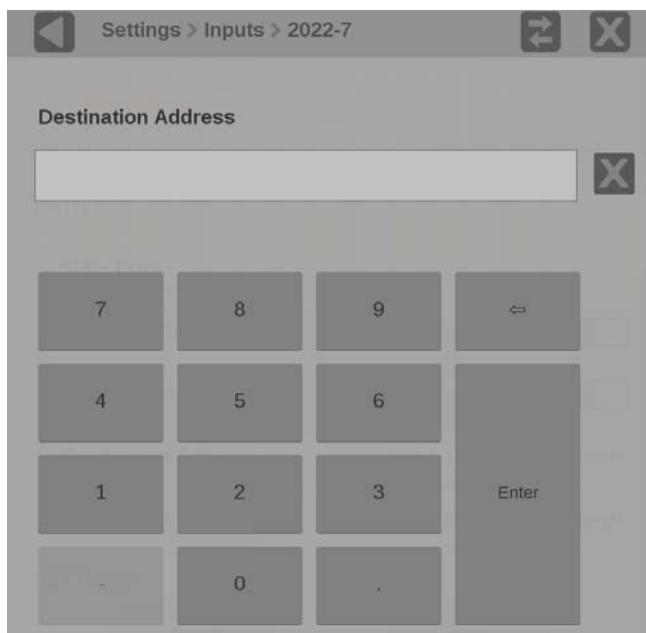

Figure 43: Editing parameter fields
5. To edit one of the parameter values, select inside the parameter box to open the editing display shown in Figure 43.